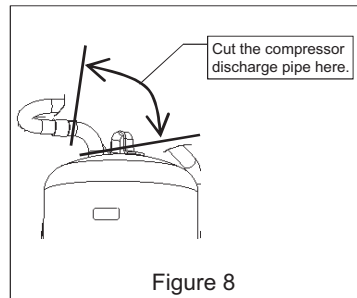

Figure 8
- (8) Remove the compressor discharge pipe by cutting the pipe where indicated in Figure 8 or by removing the braise.